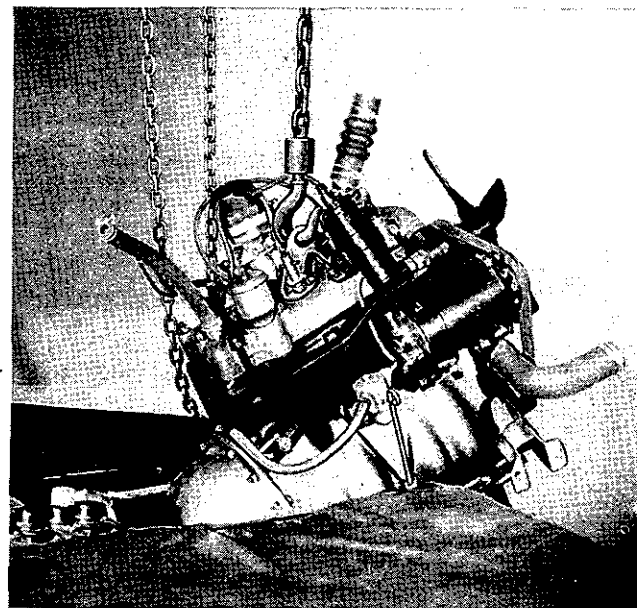

Fig. 29. Lifting engine out of chassis.
20. Apply lifting bracket to cylinder head, as shown in Fig. 29, and take weight of engine.